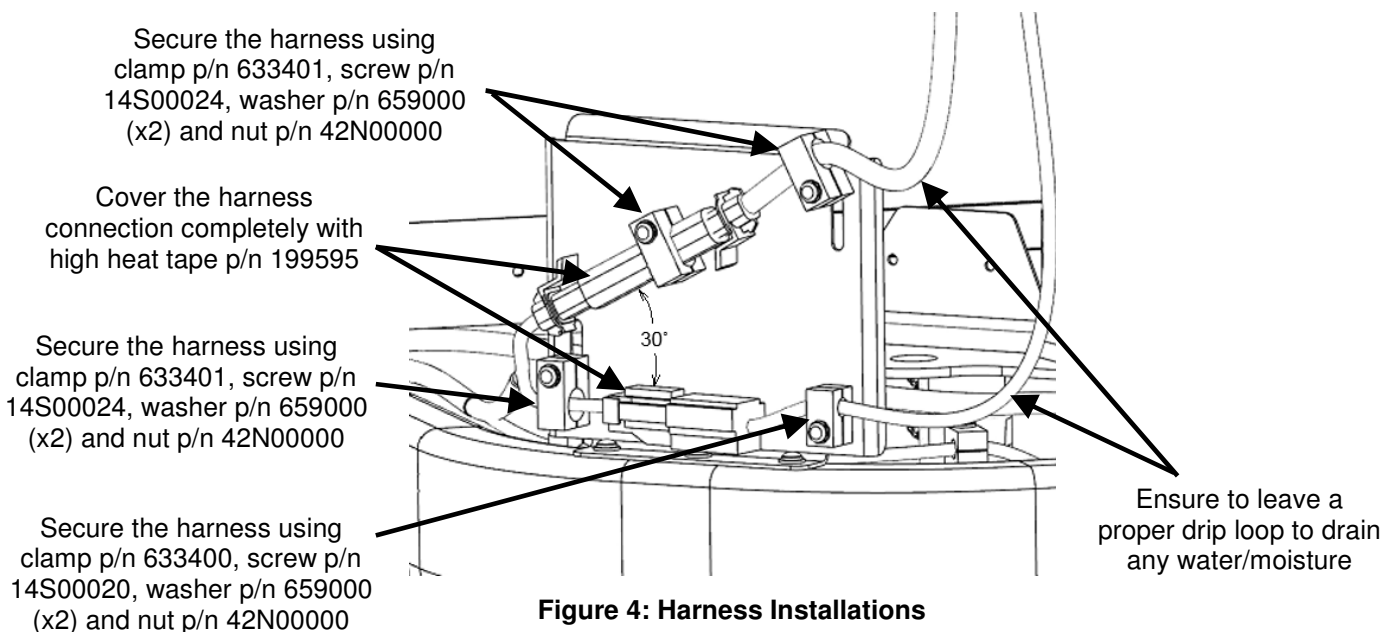

Figure 4: Harness Installations
7. Retrieve the tied back harnesses (x2) from Step 3 and double checking to make sure they are connected properly. Cover each harness connection completely with high heat tape p/n 199595. See Figure 4.
8. Secure the existing O2 sensor harness connectors to the new harness support bracket using clamp p/n 633401, screw p/n 14S00024, washer p/n 659000 (x2) and nut p/n 42N00000. Harness connection is to be positioned 30 degrees off horizontal as shown in Figure 4.
9. Secure the harness at the top of the bracket using clamp p/n 633401, screw p/n 14S00024, washer p/n 659000 (x2) and nut p/n 42N00000. Harness connection is to be positioned 30° off horizontal as shown in Figure 4.
10. When securing the harness ensure to leave a proper drip loop to drain any water/moisture, See Figure 4.
11. Secure the existing Exhaust gas temperature sensor harness connectors to the new harness support bracket using clamp p/n 633401, screw p/n 14S00024, washer p/n 659000 (x2) and nut p/n 42N00000 for the forward securement and clamp p/n 633400, screw p/n 14S00020, washer p/n 659000 (x2) and nut p/n 42N00000 for the rearward securement. See Figure 4.
12. When securing the harness ensure to leave a proper drip loop to drain any water/moisture, See Figure 4.